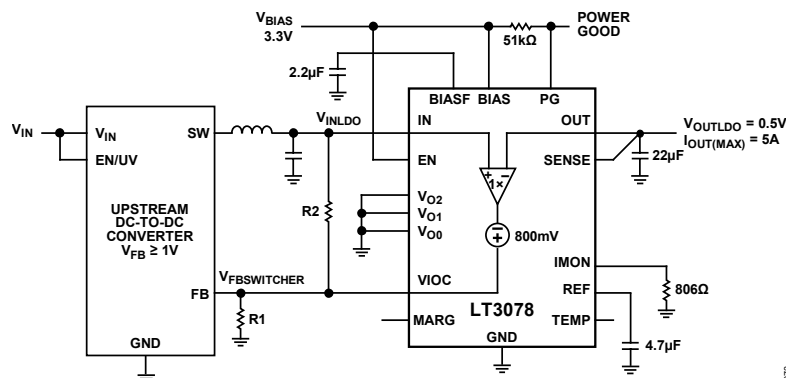

Figure 72. VIOC Basic Operation
The VIOC pin controls an upstream switching converter to maintain a constant voltage across the LT3078, regardless of the LDO's output voltage. This maximizes efficiency while maintaining PSRR performance. The VIOC pin is the output of a fast amplifier and equals to $(V_{IN} - V_{OUT}) + 800mV$. As shown in Figure 72, the VIOC feature is simple to use. In the case of $V_{FB} \geq 1V$, connect the VIOC pin to the upstream switching converter's feedback (FB) pin. This regulates the LT3078's input-to-output differential to the switching converter's feedback voltage minus 800mV. When paralleling multiple LT3078s, connect the VIOC pin of one of the LT3078 to the upstream switching converter's feedback pin and float the remaining VIOC pin(s).